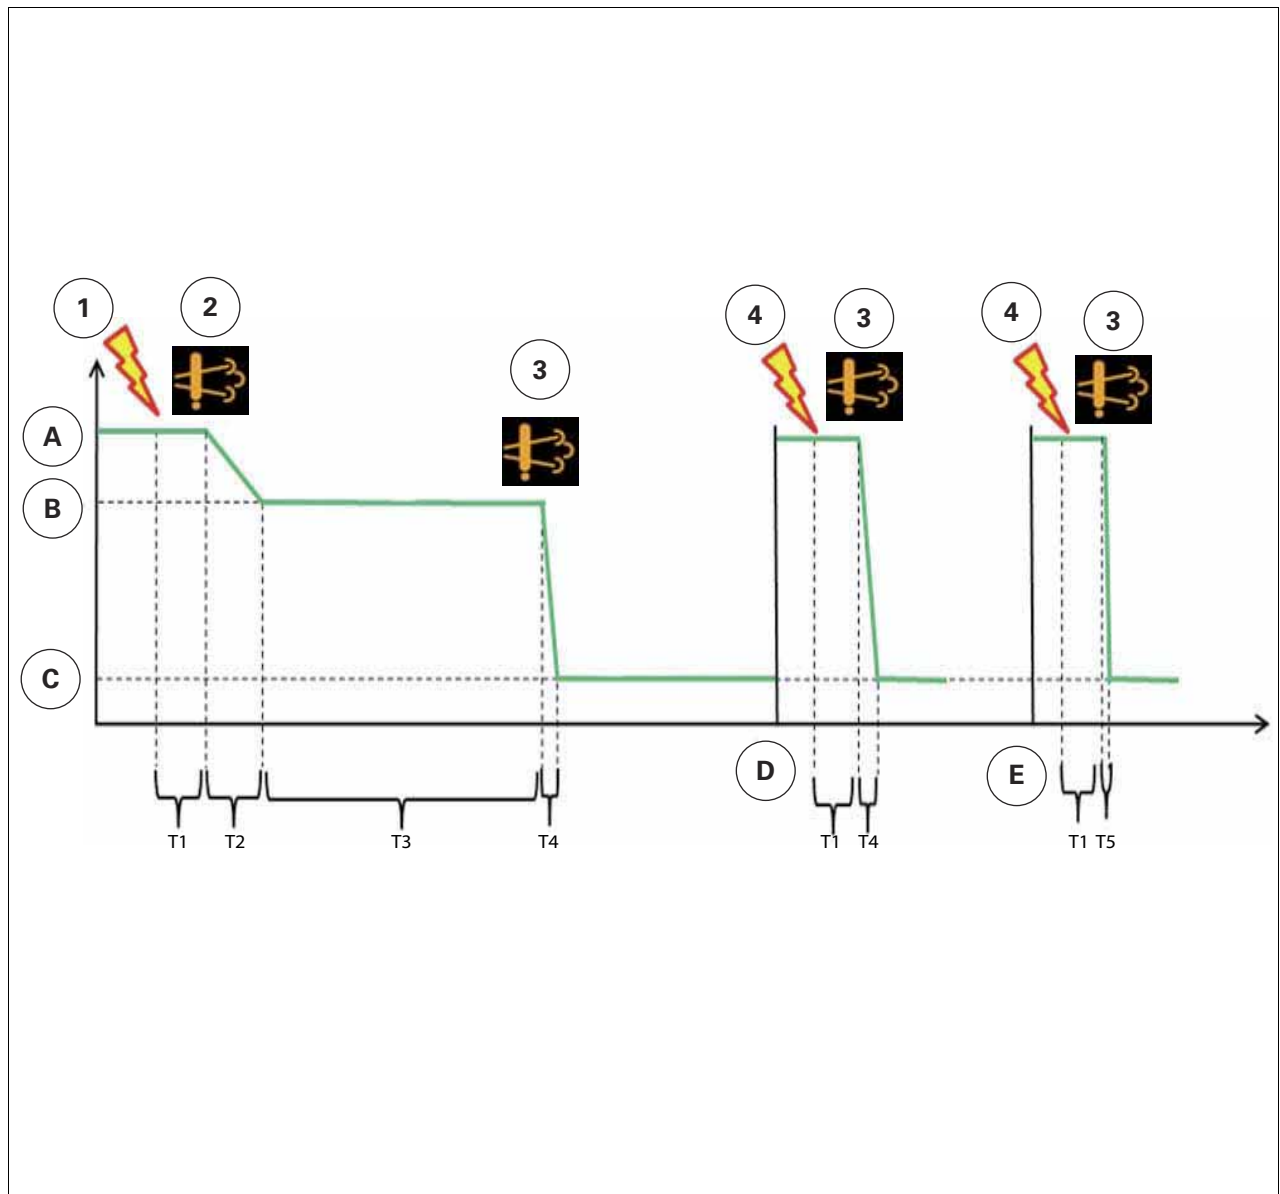

Fig. 11.
- If the fault returns within 40 hours of having been corrected (in the case of a return of an emissions fault (4)), final degraded mode (C) is activated directly. (see fig. 11)
- If the fault returns within 40 hours of having been corrected (in the case of detection of an emissions fault (1)), final degraded mode 1 (B) is activated directly. (see fig. 11)